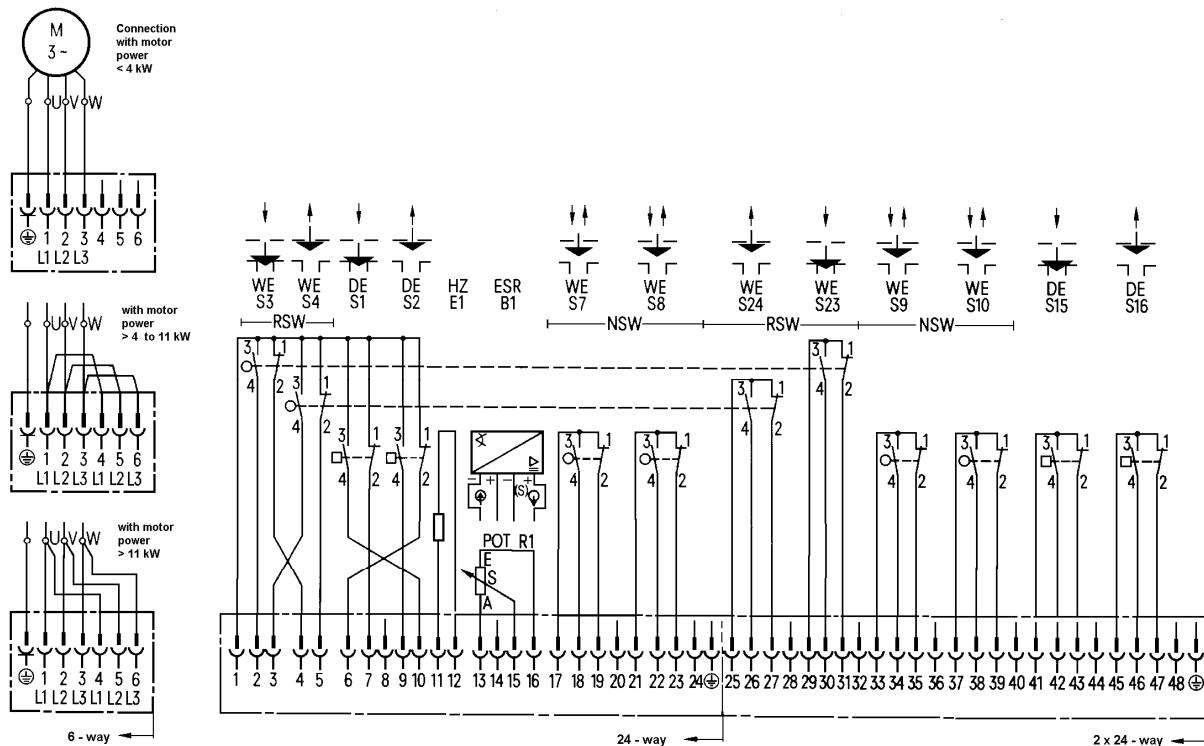

Fig. 4 : Connection diagram
In the case of motors (open loop control) with rated powers above 4 kW up to 11 kW, 2 cores can be connected to 2 plug contacts for each outer conductor in order to increase the total cross-section of the cables. Associated plug contacts, e.g. 1 and 4 for outer conductor L1 are connected together in the bottom part of the plug by jumpers (Fig. 4).
**Electric connection ( see Fig. 4 ):****Plugs for switching and signaling unit :**